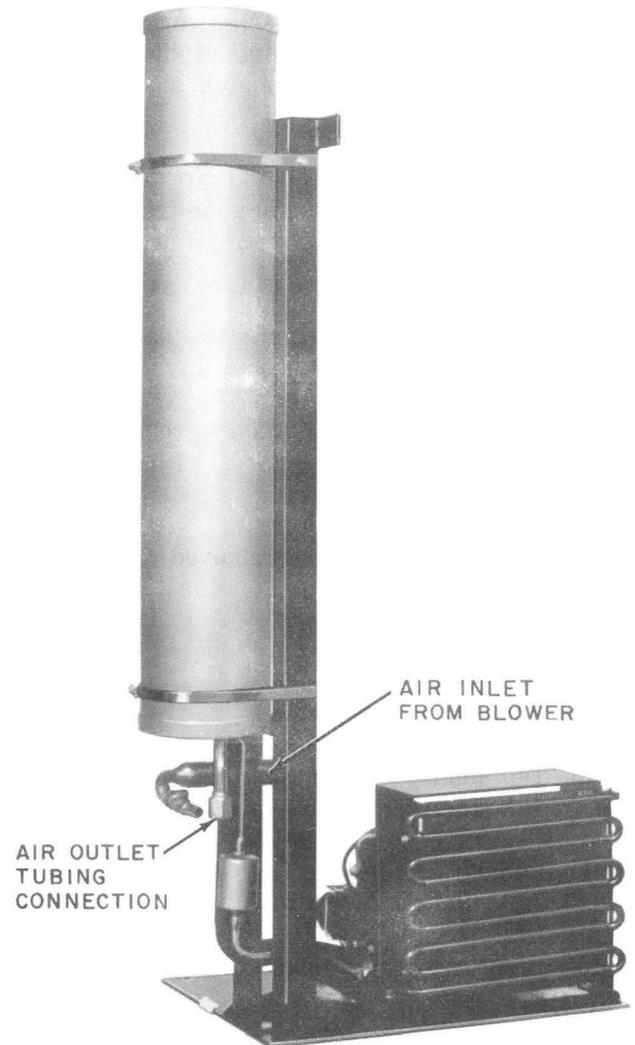

Fig. 7—A-3775 Refrigeration Replacement Assembly
3.03 Replacement of the entire refrigeration system can be made by field personnel with the A-3775 refrigeration replacement assembly (Fig. 7).